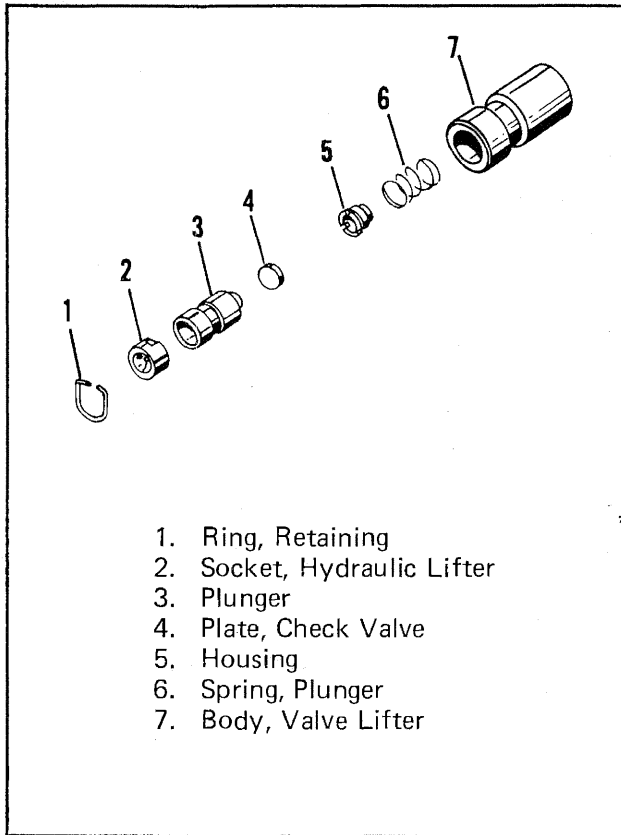

FIGURE 5-7. HYDRAULIC LIFTER.
**5-27. HYDRAULIC VALVE LIFTERS** (See Figure 5-7). Stand valve lifter on its flat end. Use a small screwdriver and carefully pry snap ring (1) from body groove. Hold down socket (2) with a pushrod until ring has been removed. Invert lifter and catch socket as it drops out. Insert a finger into plunger (3) and withdraw plunger (3), spring (6) and check valve assembly (4, 5). If plunger is stuck in body (7), hold plunger down fully and scrape out carbon deposit. If this obstruction cannot be removed, or if plunger is seized by score marks, the entire assembly must be replaced. Re-